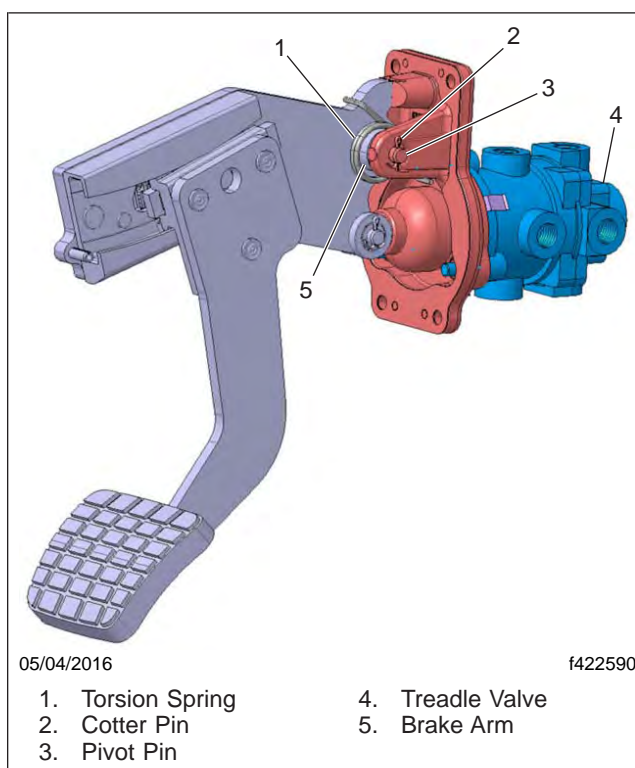

Fig. 1, Brake Pedal Assembly
3. Inspect the brake pedal assembly for a torsion spring. See Fig. 1, item 1.
5. Remove and discard the cotter pin. See Fig. 1, item 2.
7. Install the new torsion spring on the service brake pedal. See Fig. 1, item 1.